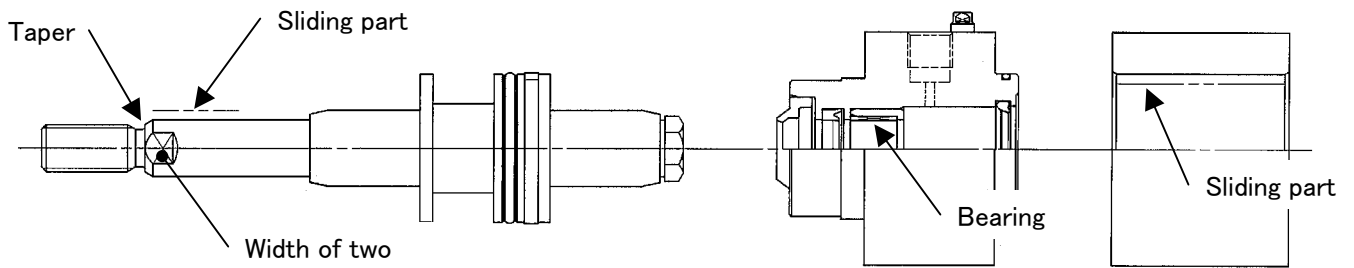

Fig 15
④Each components of cylinder【Fig 15】